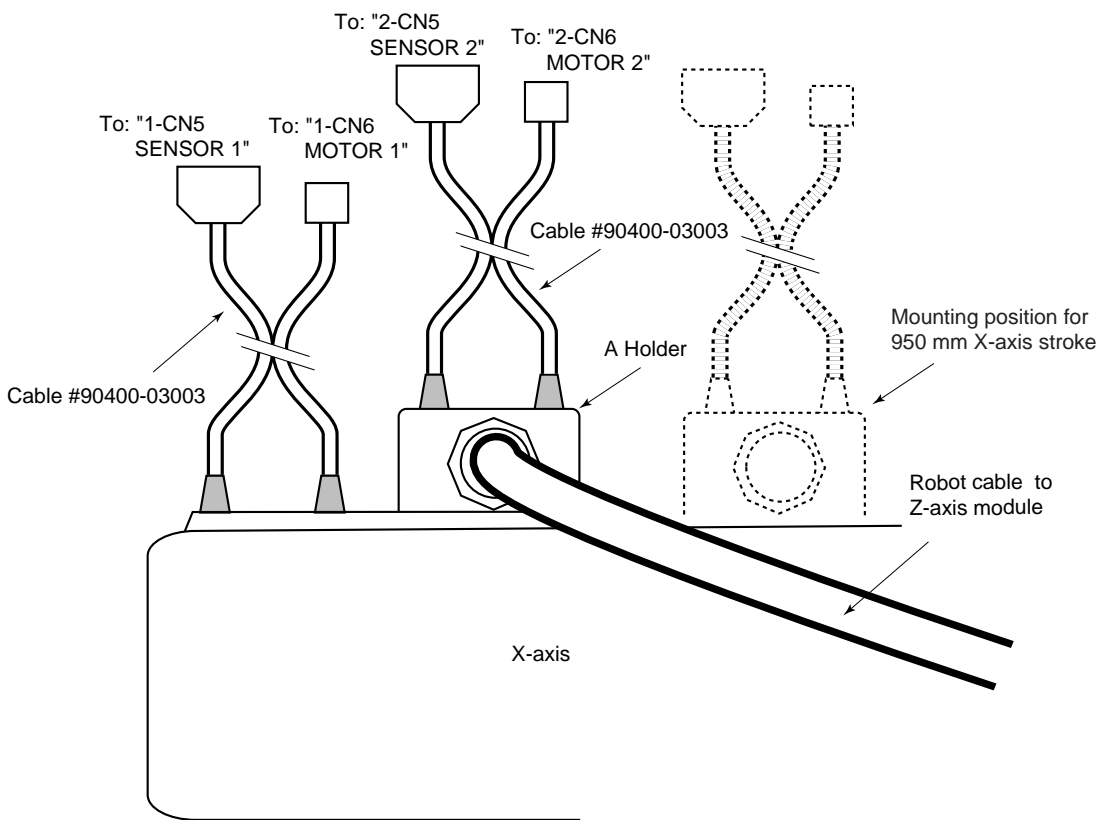

Figure 4-48. Connecting to an EXA or EXC Controller
- a. Connect the two barrel ends of the cable to the X-axis module as shown in Figure 4-48. These connectors have different pin sizes and cannot be installed incorrectly. The other ends connect to the controller connections marked “1-CN6 MOTOR 1” and “1-CN5 SENSOR 1”.
- b. Attach the A holder end of the robot cable to the mounting holes on the motor cover of the X-axis module as shown in Figure 4-48 (refer to Section 4.3 for holder mounting).
- d. Connect the two barrel ends of the cable to the Z-axis module as shown in Figure 4-48. These connectors have different pin sizes and cannot be installed incorrectly. The other ends connect to the controller connections marked “2-CN6 MOTOR 2” and “2-CN5 SENSOR 2”.